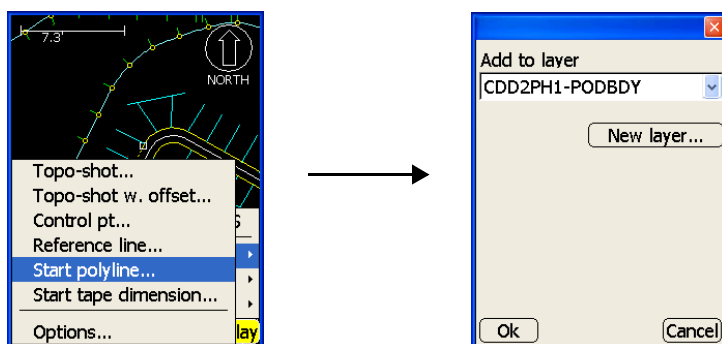

Figure 6-8. Select Layer to Add Points to and Start Polyline
1. To begin collecting points along a polyline, press **Survey ▶ Measure pts ▶ Start polyline** (Figure 6-8)
2. On the *start polyline* dialog box, select a layer in which to store measured points or create a new layer, and press **Ok** (Figure 6-8).